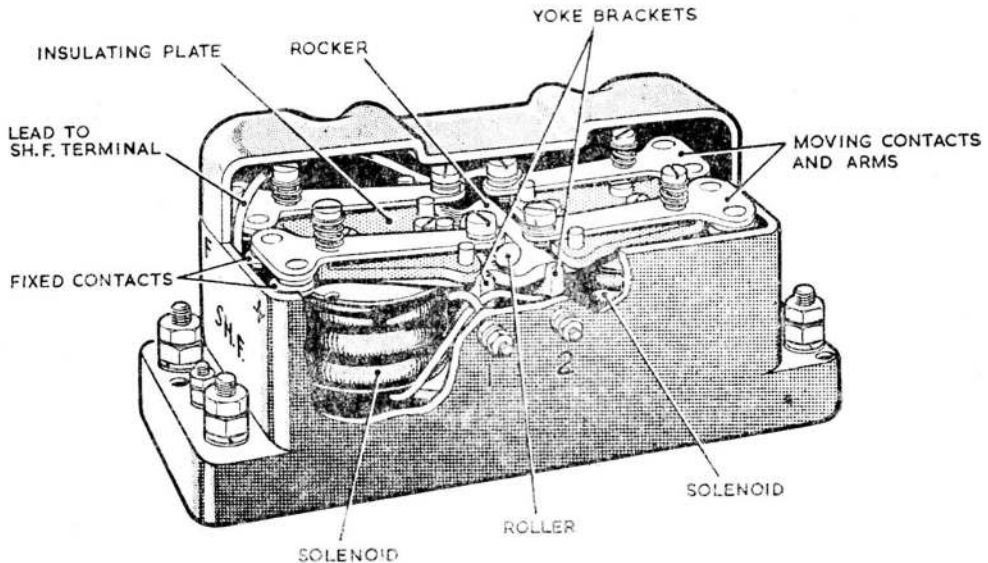

Fig. 1. Reversing switch, Type D5101 (part section)
2. Two separately excited solenoid coils (*fig. 1*) are secured in yoke brackets to the base of a Bakelite box. The moving contacts assemblies for each solenoid are carried on a common rocker positioned above the coils and protected by a recessed lid secured by four captive screws.
4. The moving contact arms (fig. 1) are secured by a spring loaded screw to an insulating plate, this plate being rigidly attached to the rocker by three screws. An additional screw at the end of each contact arm allows for connections to be made to the arms themselves.